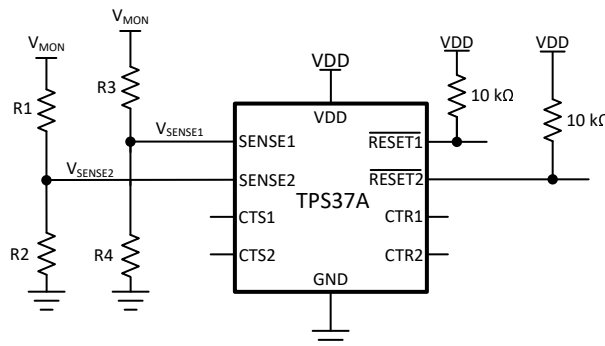

Figure 10-1. Adjustable Voltage Threshold with External Resistor Dividers
For example, consider a 12 V rail being monitored  $V_{MON}$  for undervoltage (UV) using channel 2 of the TPS37A010122DSKR variant. Using Equation 7 and shown in Figure 10-1,  $R_1$  is the top resistor of the resistor divider that is between  $V_{MON}$  and  $V_{SENSE2}$ ,  $R_2$  is the bottom resistor that is between  $V_{SENSE2}$  and GND,  $V_{MON}$  is the voltage rail that is being monitored and  $V_{SENSE2}$  is the input threshold voltage. The monitored UV threshold, denoted as  $V_{MON-}$ , where the device will assert a reset signal occurs when  $V_{SENSE2} = V_{IT-(UV)}$  or, for this example,  $V_{MON-} = 10.8V$  which is 90% from 12 V. Using Equation 7 and assuming  $R_2 = 10k\Omega$ ,  $R_1$  can be calculated shown in Equation 8 where  $I_{R1}$  is represented in Equation 9: